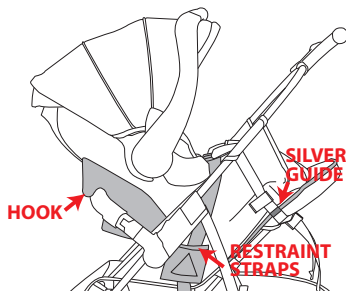

Figure 31
- Locate the carrier restraint straps located in the pockets on both sides of the stroller seat. Remove each strap from the pocket and guide it between the fabric on the side of the seat and the frame. The straps should be between the fabric and the frame. See Figure 31.
- Place the infant carrier onto the top of the stroller in the REAR FACING POSITION, locating the “hook” on EACH side of the underside of the carrier onto the bumper bar and the feet end of the carrier against the seatback. See Figure 31.